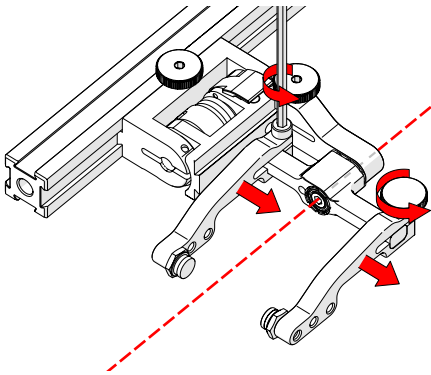

Fig. 150 - Adjust probe holder arms
5. Loosen the probe holder arm adjustment knob (Fig. 150) and remove the outer probe holder arm from yoke.
6. Adjust the inner probe holder arm as required to best centre the probe on the yoke's pivot axis (Fig. 150).
TIP: The probe holder yoke can accommodate many different probe and wedge sizes of varying widths. It is best to centre the wedge with the yoke's pivot axis to reduce wedge tipping when scanning. Position the inner probe holder arm accordingly with the centre of the yoke (Fig. 150).